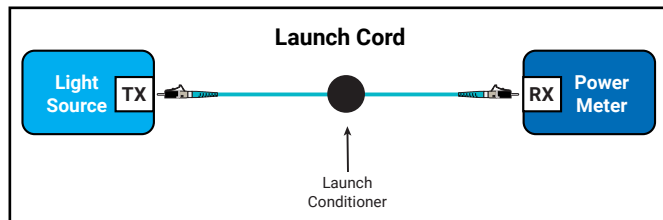

Figure 3a. Establish a reference
4. Connect the launch test cord between the light source and the power meter (see Figure 3a).